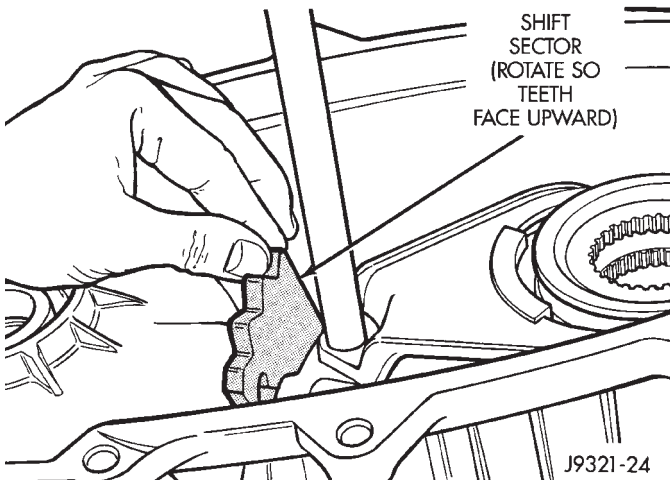

Fig. 39 Rotating Shift Sector
(24) Rotate shift sector so sector teeth face upward (Fig. 39).